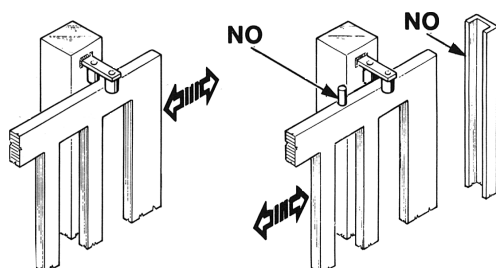

Fig. 3
Gate columns shall have anti-derailment guides on their top (Fig. 3), to avoid the unintentional gate release.
N.B.: Eliminate those mechanical stops of the kind described by figure 3.